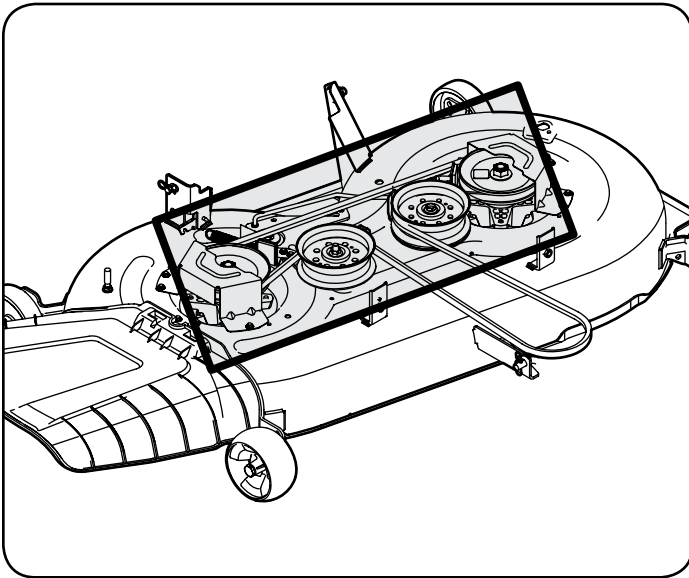

Figure 17
- Clean the top of the mower deck, under the spindle covers and belt area. See Figure 17.